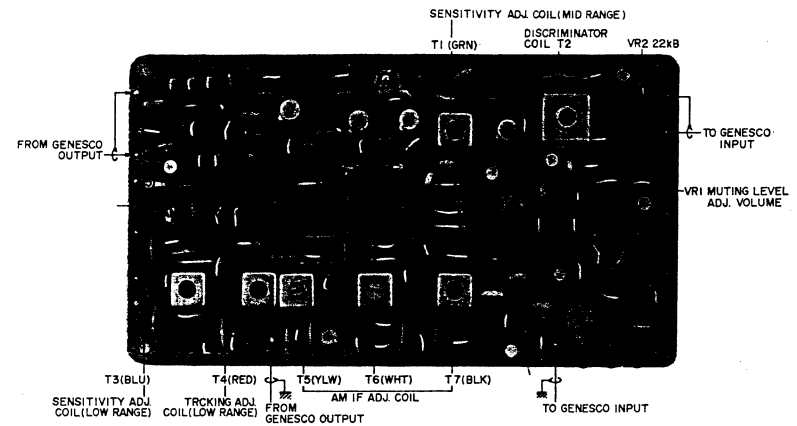
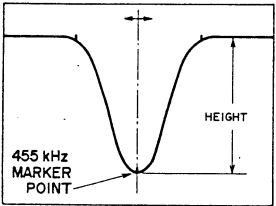

Fig. 5 FM-AM IF P.C. BOARD 94-5009
Fig. 15
After completing the adjustments outlined in Parts 1 through 4 of this manual, set the FM S.G. Attenuator to non-output condition, and adjust the upper core of FM-AM IF P.C. Board Discriminator Coil T2 shown in Fig. 5 until the tuning indicator needle of tuning meter comes to the center. Then set Receiver dial to 98 MHz, supply a 98 MHz (400 Hz, 100% internal modulation) 66 dB signal from the FM S.G., and fine adjust the lower core of Discriminator Coil T2 for minimum distortion factor.
NOTE: A noise element should not enter the single peaked curve shown in Fig. 15.
- 5) Adjust the cores of FM-AM IF P.C. Board IFT T7(BLK) (refer to Fig. 5) so that the 455 kHz marker point of the single peaked curve displays maximum amplitude as shown in Fig. 15.
- 6) Adjust the cores of FM-AM IF P.C. Board IFT T6(WHT) and T5(YLW) (refer to Fig. 5) so that the left and right rise up characteristics of the single peaked curve shown in Fig. 15 are identical from the center (indicated by the dotted line in the figure).